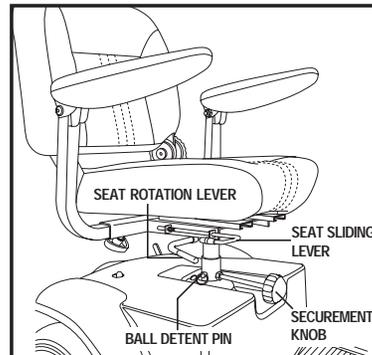

Figure 10. Seat Adjustments
1. Disengage the seat rotation lever to release the seat. **See figure 10.**
The seat can be repositioned to different heights. **See figure 10.**
You can reposition the seat forward or rearward to adjust the distance between the seat and the tiller. **See figure 10.**